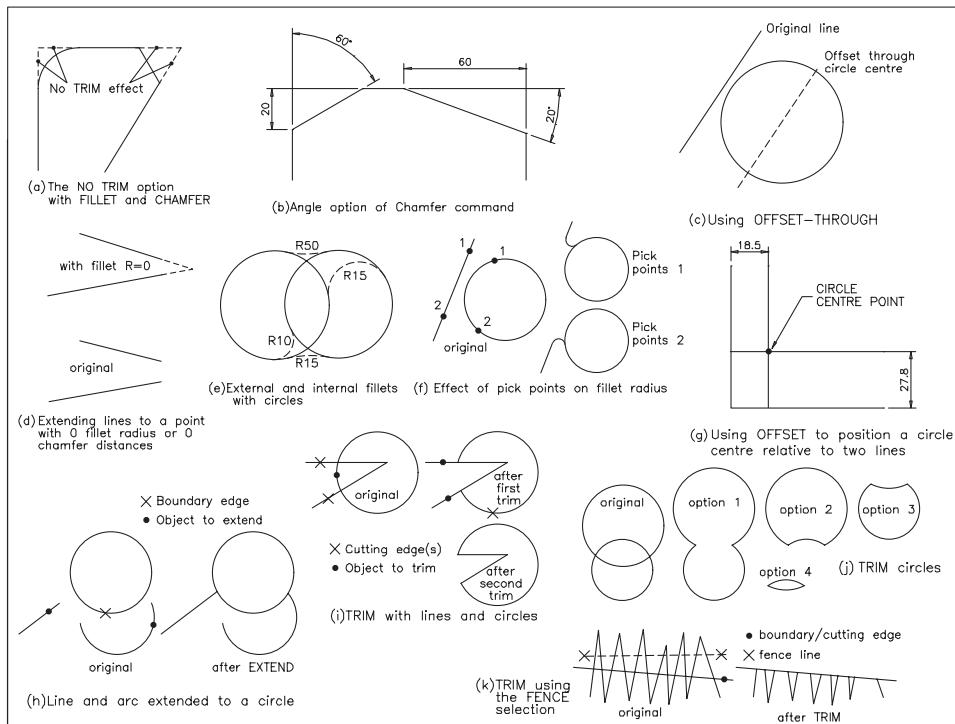

Figure 12.2 Using the fillet, chamfer, offset options and the trim and extend commands.
- 1 Begin a new metric drawing from scratch and refer to Figure 12.2.
and if the no trim (N) option is used, this effect will always be obtained until the user ‘resets’ the trim (T) option – Figure 12.2(a)
and the required lines can now be chamfered. Figure 12.2(b) displays:
and the line will be offset through the circle centre – Figure 12.2(c).
- b) draw two inclined lines and set R=0. Figure 12.2(d) demonstrates the effect.
The fillet command can be used to add external and internal fillets as Figure 12.2(e).
Adding a fillet to a line and a circle requires the pick points to be selected correctly. Figure 12.2(f) demonstrates different pick point effects.
The offset command can be used to obtain a circle centre point and is one of the most common uses for the command. Figure 12.2(g) demonstrates offsets of 18.5 horizontally and 27.8 vertically to position the circle centre point.
Lines and arcs can be extended to other objects, including circles – Figure 12.2(h).
- a) lines, circles and arcs can be trimmed to ‘each other’ as Figure 12.2(i)
- b) can you obtain the various options in Figure 12.2(j)?